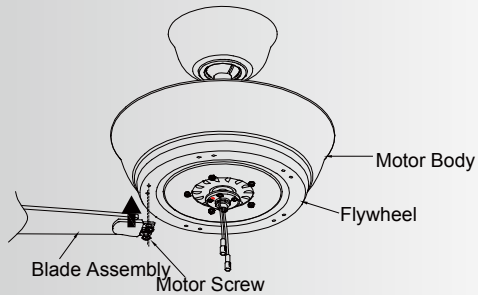

Fig. 20
Step 2. Fasten blade assembly to the holes located on the bottom of the flywheel. Tighten the two "pre- installed" motor screws in the blade arm. Repeat steps for the remaining blades assemblies. (Fig. 20)